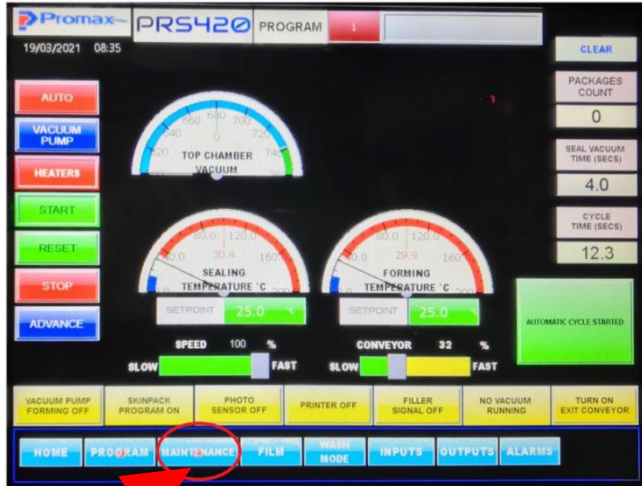
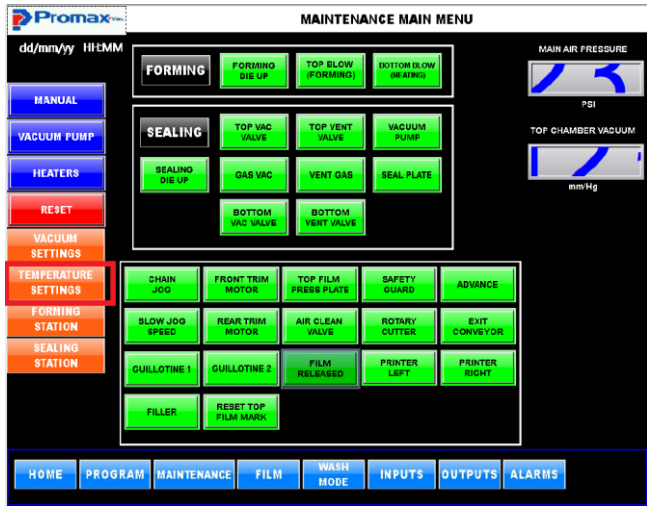

Fig.OP-5.13
Fig.OP-5.14
- To access temperature limit adjustments/temperature parameters press MAINTENANCE on HOME screen (Fig. OP-5.13), enter user credentials and press ok, press the TEMPERATURE SETTING button (Fig. OP-5.14) to go to next control screen (Fig. OP-5.15) to control temperature limits to every related component.